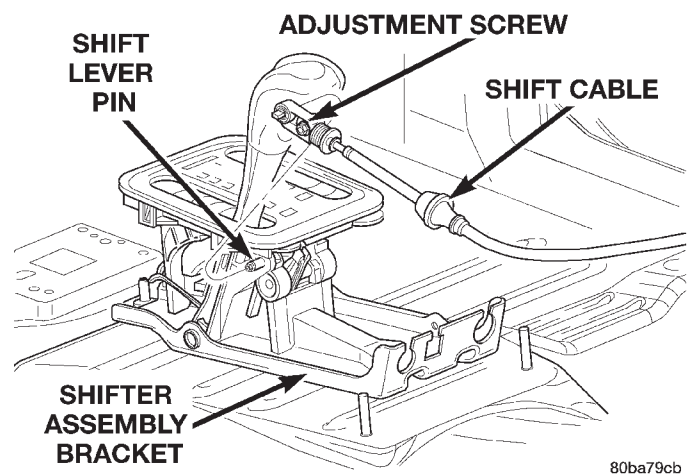

Fig. 26 Transmission Shift Cable at Shifter
- (6) Remove shift lever bezel and necessary console parts for access to shift lever assembly and shift cable.
- (7) Disconnect cable at shift lever and shifter assembly bracket (Fig. 26).